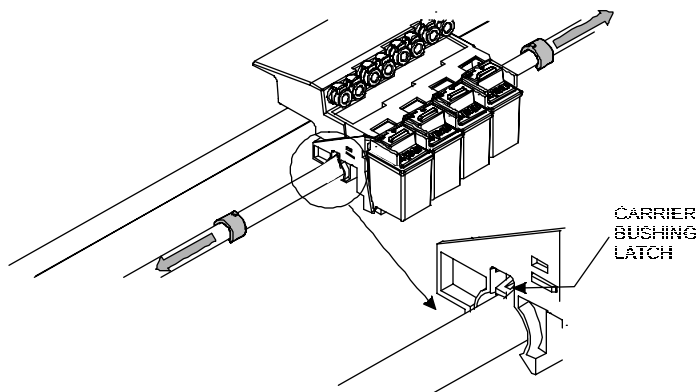

Figure 5-18. Carrier Bushing Removal.
2. Use a flat tip screwdriver to push up on the latch which holds the Carrier Bushing in place. See Figure 5-18.